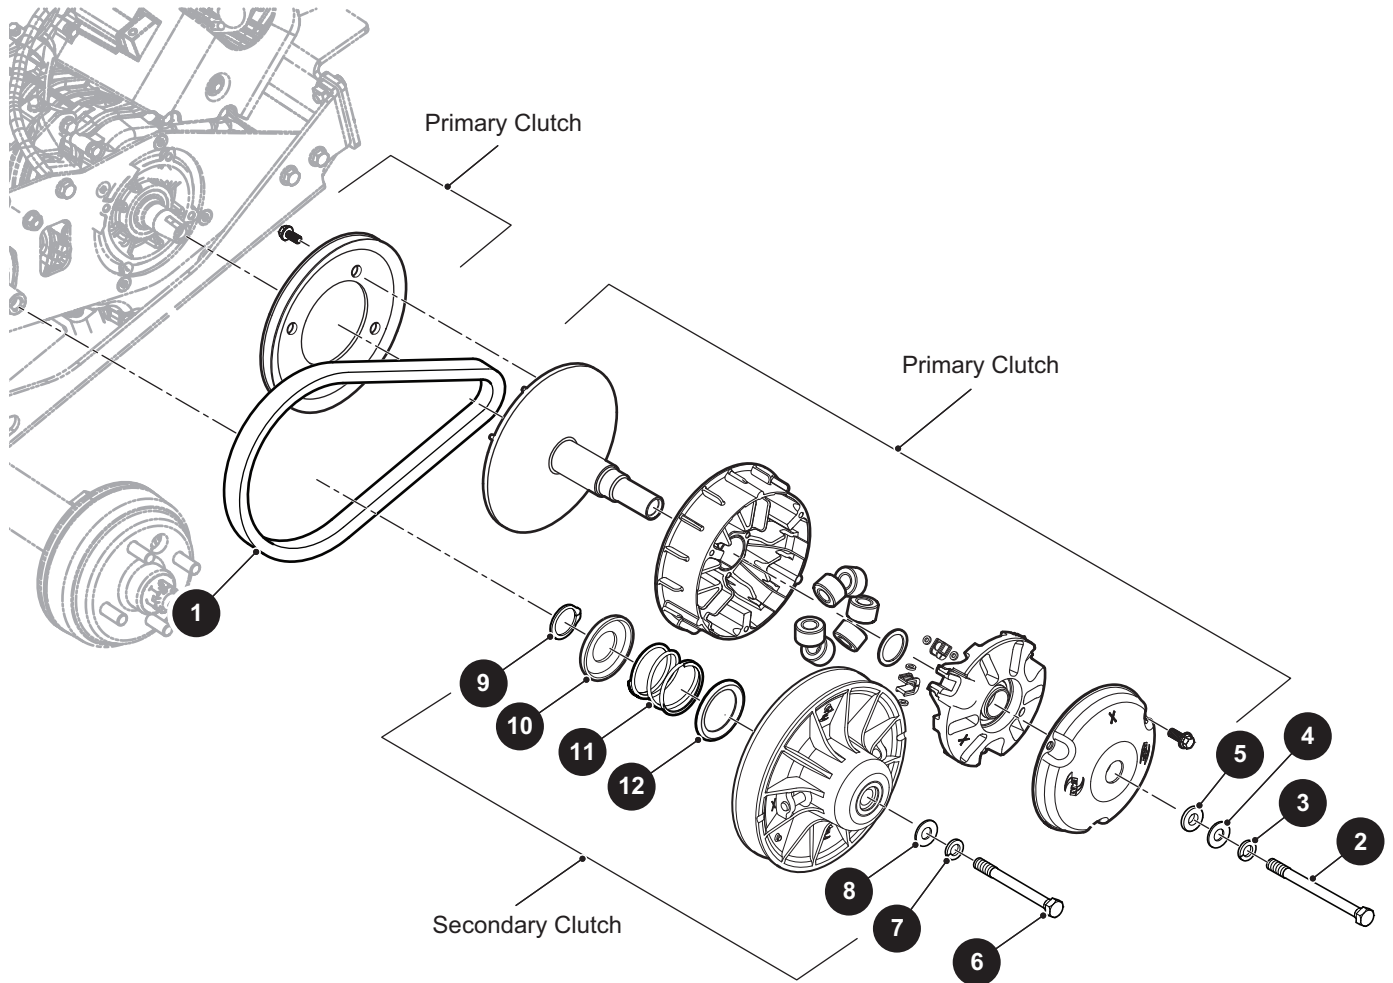

Fig. 3 CVT Components
1. Remove the CVT belt (1) (Ref. Fig. 3).
3. Remove the bolt (2) from the center of the primary clutch (Ref. Fig. 3).
2. Slide the clutch onto the engine crankshaft and rotate the clutch while lightly pushing the movable sheave in and out several times to seat the clutch on the tapered crankshaft (Ref. Fig. 3).
3. Install the lock washer (3), conical washer (4) and clutch washer (5) onto the clutch bolt (2).
4. Apply thread locking adhesive to the threads of the clutch bolt (2) and install. Tighten the bolt to the torque value specified below.